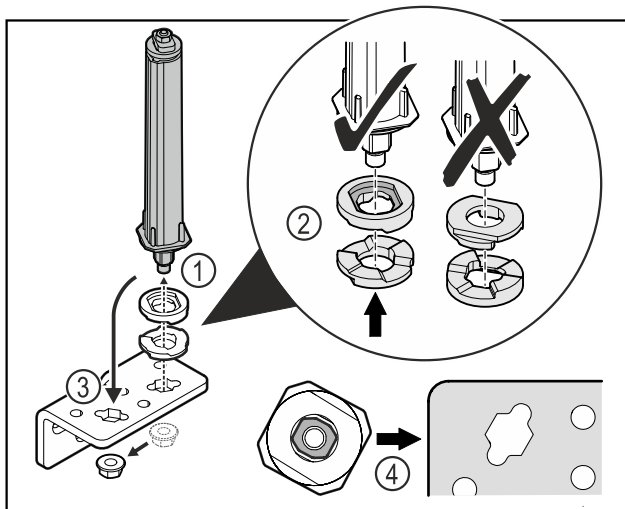

Fig. 40
- Loosen the nut and remove the door closing system Fig. 40 (1).
- Observe the correct alignment of the height adjustment washers Fig. 40 (2).
- Put the door closing system in the hinge and fix in place with the nut Fig. 40 (3).
- Observe the correct alignment of the door closing system when doing so Fig. 40 (4).